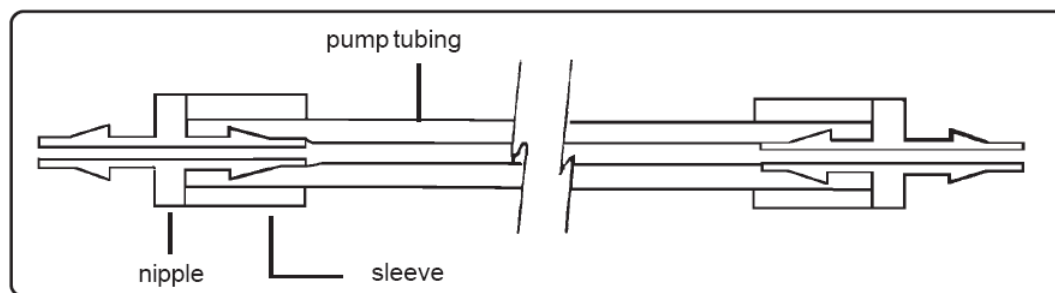

Figure 1. Pump tube assembly detail
- 2 Hold the body of the nipple, stretch the tubing slightly (by gently pulling it away from the barb), and push the sleeve back over the barb to clamp the tubing onto the nipple as shown in Figure 1. Repeat this for the other end.